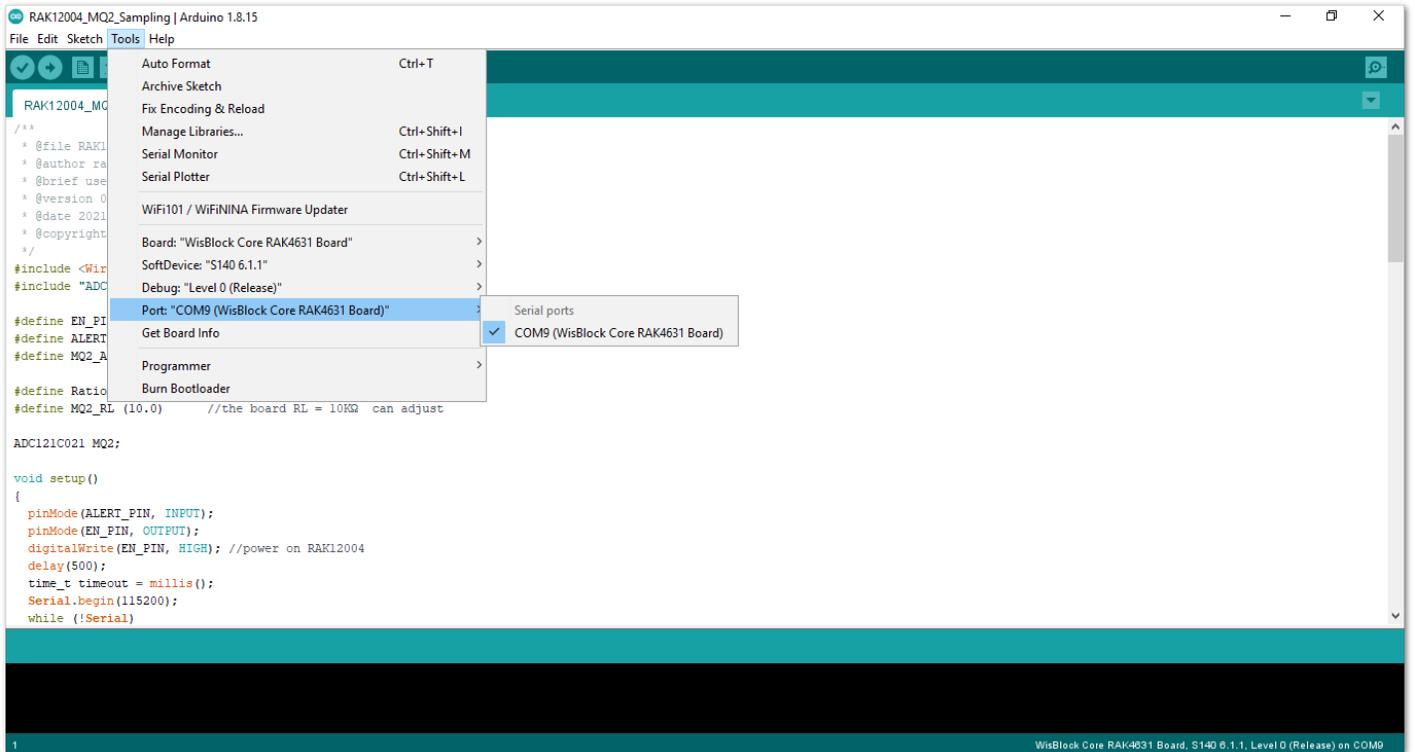
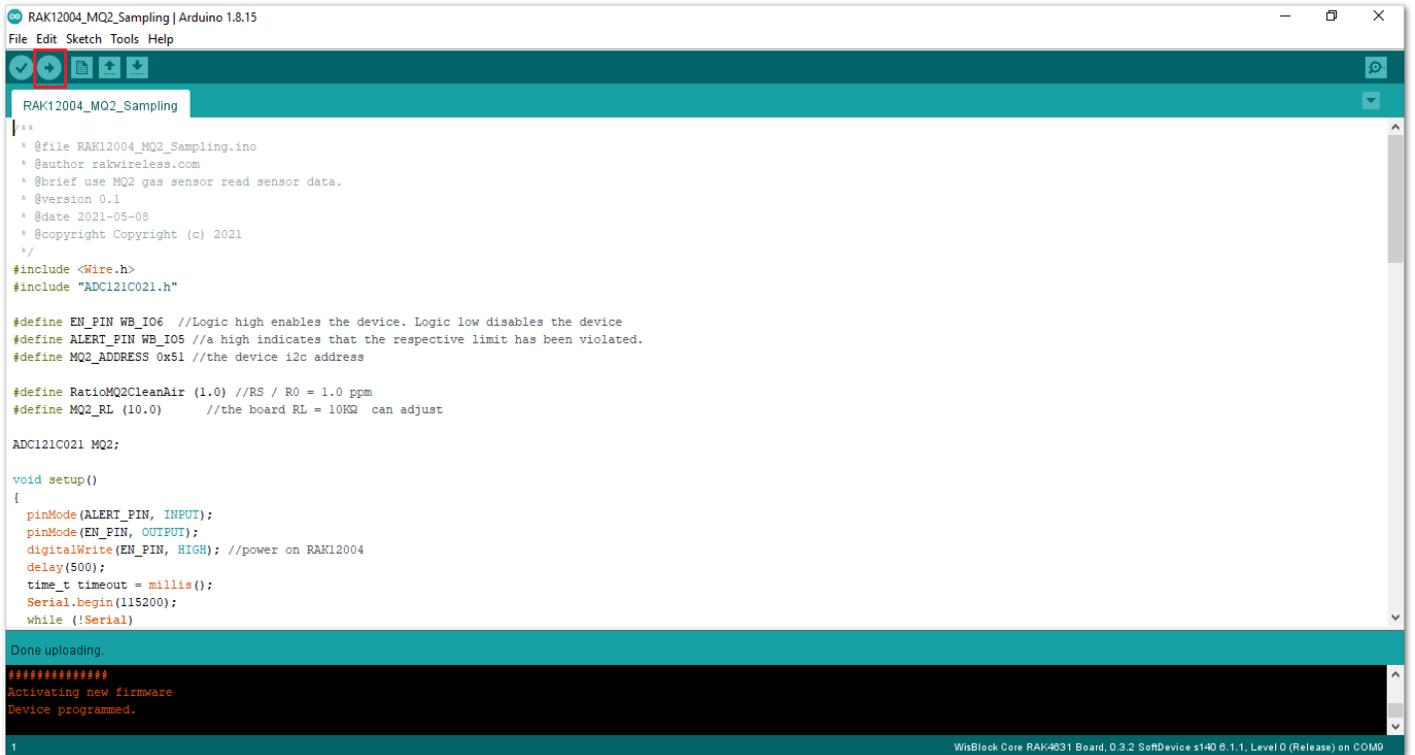

Figure 12: Selecting the correct Serial Port
Figure 13: Uploading the RAK12004 example code on RAK4631
9. You can now select the right serial port and upload the code, as shown in **Figure 12** and **Figure 13**.